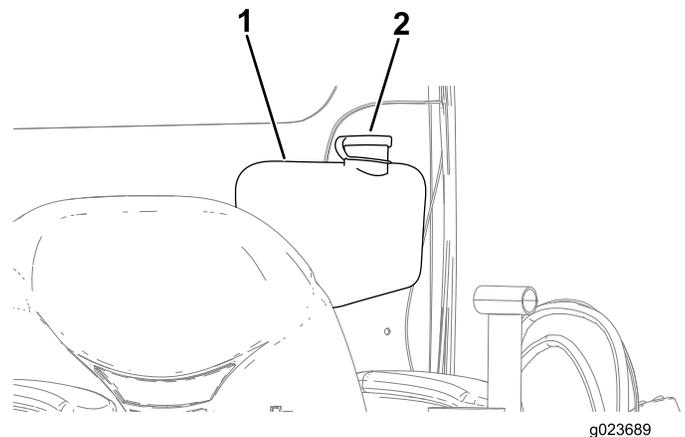

Figure 131
2. Open the cap of the windshield-washer-fluid tank (Figure 131).
3. Fill the windshield-washer-fluid tank until it is full (Figure 131).
4. Close the windshield-washer-fluid-tank cap (Figure 131).